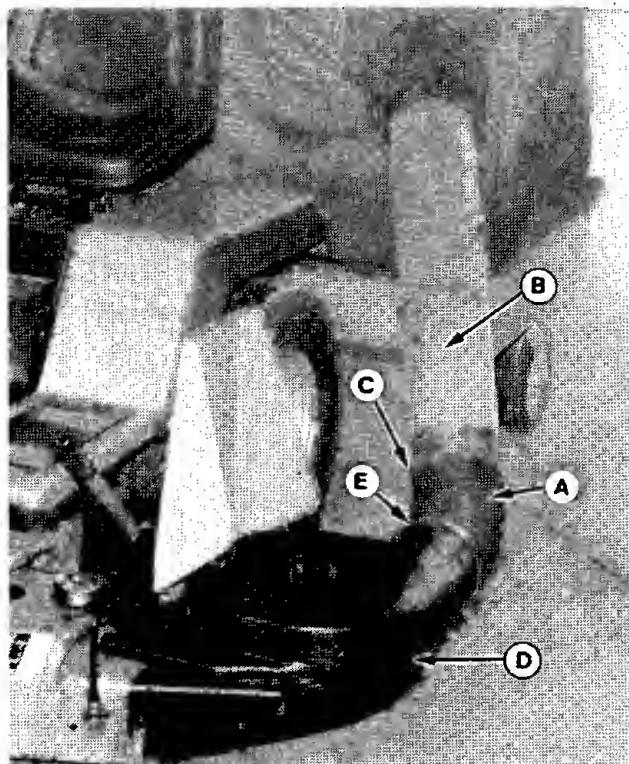

Figure 15.
1. Attach the hose (A, figure 15) to the tube (B) by installing four #10-32x1/2 trusshead screws from inside, and then installing four #10 washers and locknuts (C) on the outside.
2. Insert the tube (B) fully into connecting sleeve in the cart. (Installation of sleeve is covered in the manual supplied with wide body cart collector.)
3. Attach the hose (A) to the blower (D) with clamp (E) and tighten clamp securely.